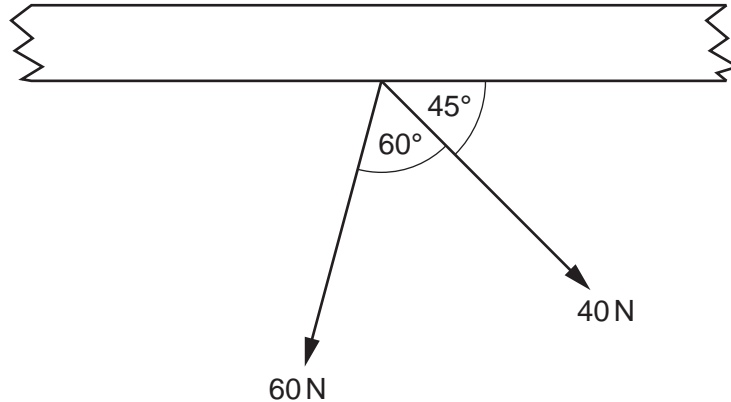

Fig. 3
- 5 (a) Fig. 3 shows two forces acting on a point on a beam.